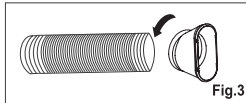

Fig.3
2. Extend the other side of the hose and screw it to the hose outlet (Fig. 3).